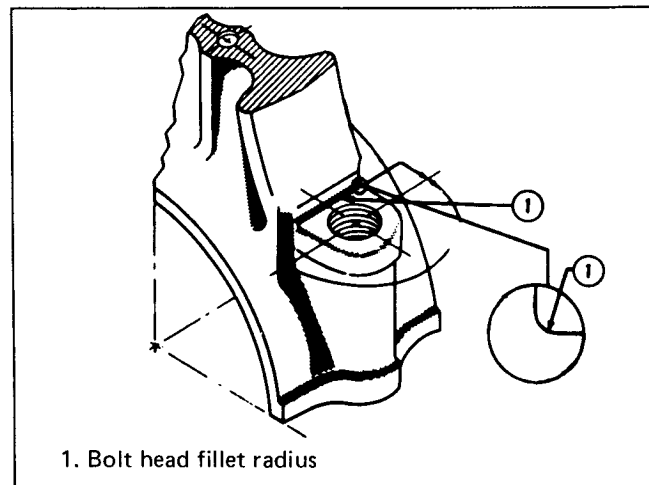

Fig. 1-14, (N40114A) Connecting rod fillet radius
4. Check bolt pad radius for dents and nicks. See (1, Fig. 1-14).
1. All 2-bolt rods must have a fillet radius of 0.045 to 0.055 inch [1.14 to 1.40 mm]. Fig. 1-14. Maximum 1/16 inch [1.59 mm] depth of metal may be milled off the pad to restore radius. Break sharp edges around pad.